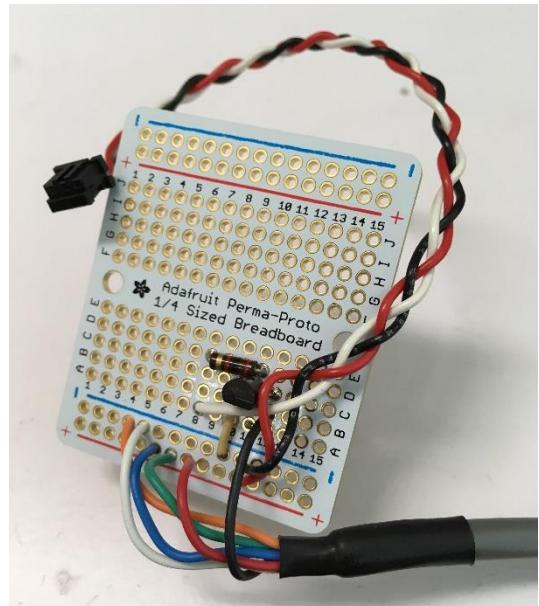

Figure 54 Completed breadboard for audio cue system
- See Figure 54 for the results of this step.